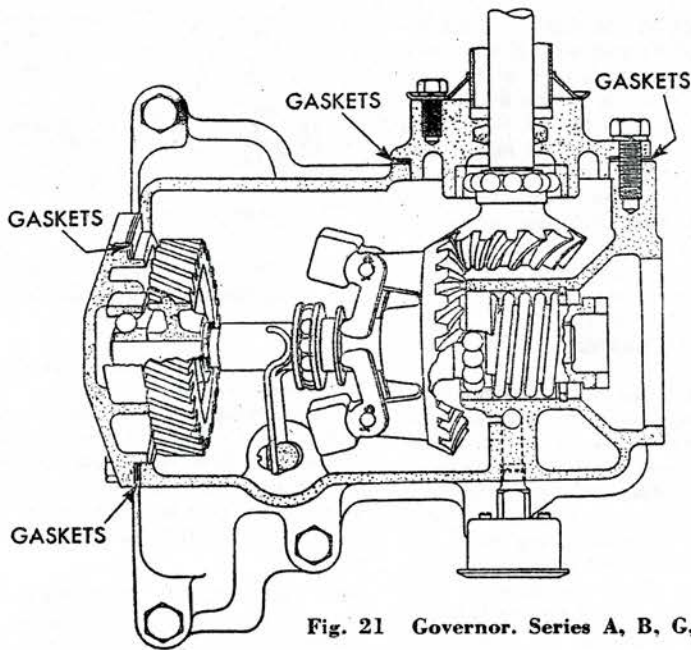

Fig. 21 Governor. Series A, B, G, H
**SERIES A, B, G, H**—Fig. 21. If adjustment of the governor is found necessary after checking the engine speed with a speed indicator, set the speed change screw in the lower bracket on the steering post so that the engine will idle at the speed indicated in the **Tune Up Data** table with the speed control lever against its stop. Turning the screw in increases the speed; turning it out reduces the speed.
**SERIES A, B, D, G, H**—To adjust the fan drive pinion for mesh with the fan drive gear, add or remove gaskets at either of the points indicated in Figs. 21 and 22, which are the rear fan shaft bearing housing and left-hand governor bearing housing. Take off the magneto before removing the left-hand governor bearing housing. There should be approximately .004-.007" backlash between the gear teeth which will provide quiet operation without binding.